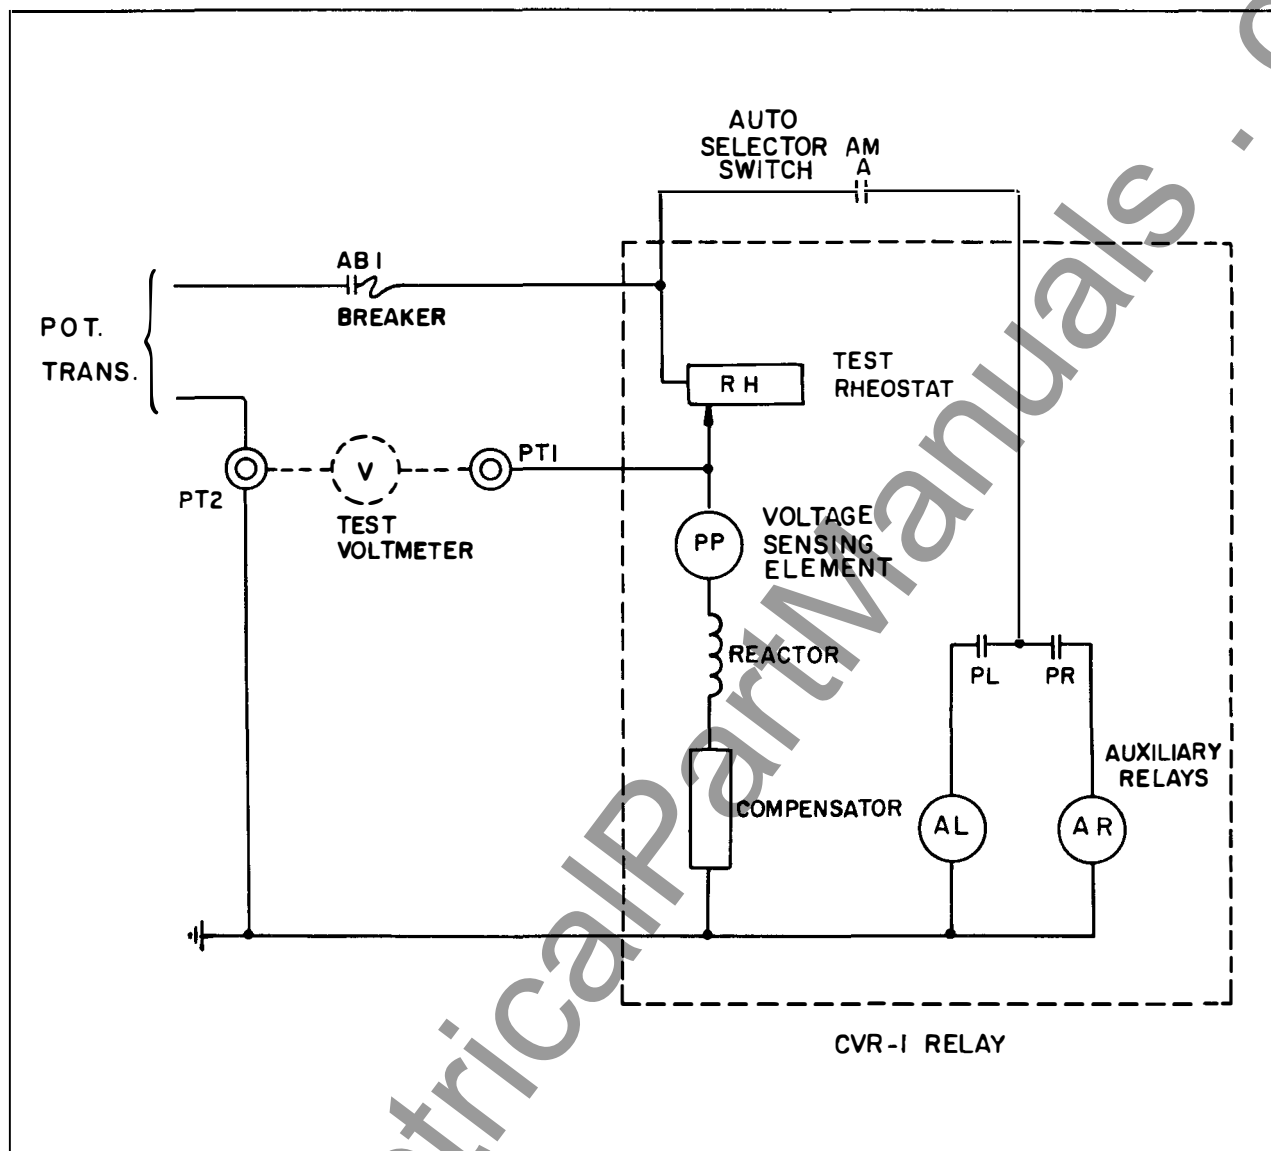

Figure 5 - Simplified Control Schematic with CVR-1 Relay
For more exact setting a voltmeter of better than 1% accuracy class should be connected from PT1 to PT2 as shown in Figure 5. It is convenient to apply an external variable voltage source to PT1 and PT2, reading on the voltmeter the voltage at which the PR and PL contacts close. If desired, a constant voltage source may be applied between PT2 (ground) and the load side of the AB potential breaker on the main control panel. This, in conjunction with the Test Rheostat (RH), will furnish a variable voltage across PT1 and PT2. Turning the Test Rheostat knob (RH) clockwise inserts resistance between the potential supply terminals and the CVR-1 sensing circuit. From this point the procedure is exactly as outlined on Page 7 under the heading "Setting the CVR-1 Relay with Load Tap Changer Energized". Observe the following cautions before attempting this procedure.
A test voltage adjustment rheostat (RH) is located on a control panel inside the CVR-1 case for your convenience. It makes possible setting the relay by using the control voltage with the tap changer energized. Turning the Test Rheostat knob clockwise will adjust the voltage applied to the relay by means of the rheostat which is in series with the control voltage and is located ahead of the test terminals. (See Diagram Figure 5). Proceed as follows: